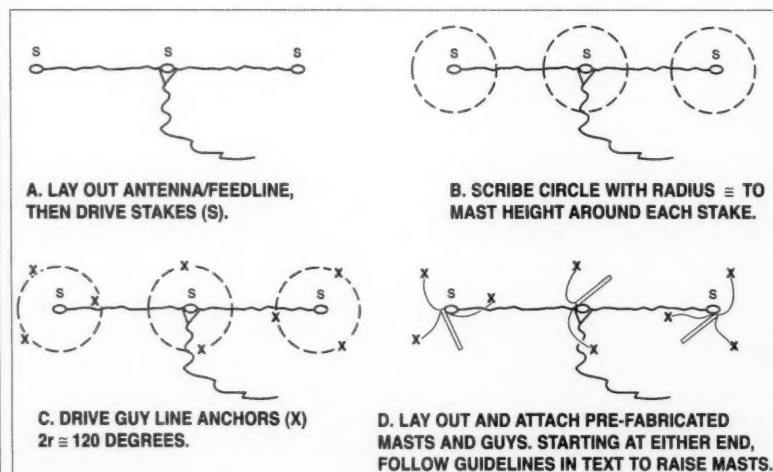

Fig. 2. Complete procedure.
5. Using the cord and chalk, "puff" a circle around each end stake with a radius equal to the height of the mast. You don't need to use a lot of chalk—just enough to tell where the circle is (see **Fig. 2**).